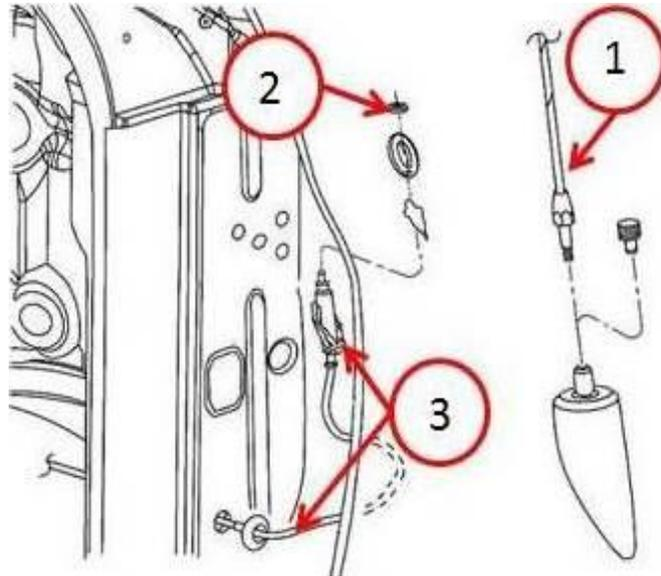

**Fig. 8 Antenna Mast Connection**
17. Connect the antenna mast connector to the instrument panel antenna cable (Fig. 8).